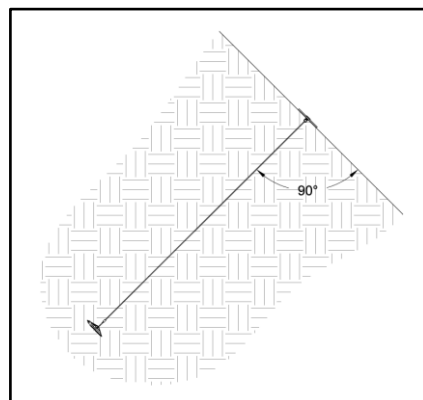

**Figure 27: Use JackJaw Setting Tool to Set Anchor**
6. Once the plate is close to the slope surface, place the JackJaw Setting Tool on the anchor plate and place the top of the anchor tendon into the grips, keeping the anchor tendon perpendicular to the slope surface (Figure 27). With gentle force, slowly start to press down on the JackJaw lever – towards the slope surface - causing the anchor tendon to start to move out of the ground (displace). During this step, the anchor head will turn in the ground – a process known as “anchor setting”. The change in embedment depth to set a Type B1 Anchor can be up to 6 inches and up to 8 inches for Type B2 depending on soil conditions. When the anchor is set, there will be a noticeable change in the amount of force needed to displace the anchor any further. This is a good indication that the anchor head is now perpendicular to the anchor tendon and the anchor is ready to be load-locked.